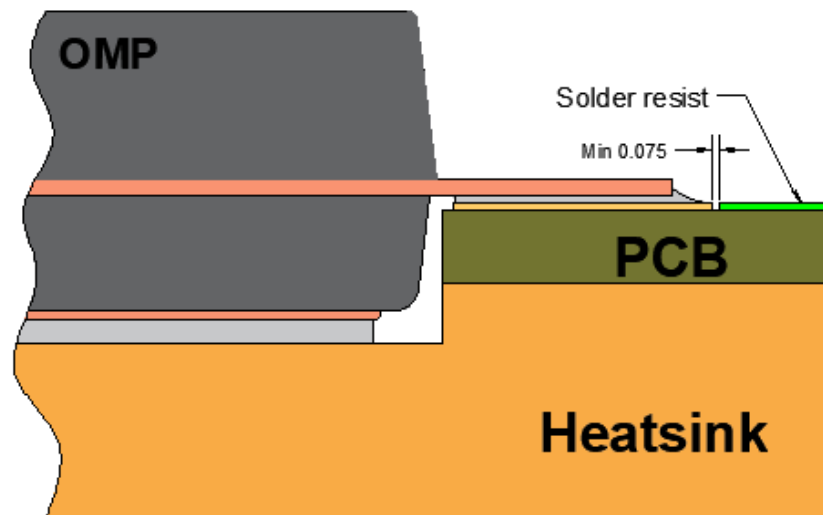

Figure 18. NSMD cross section view OMP straight leads package
- Non solder mask defined (NSMD) the solder mask openings are larger than the exposed metal pad (Figure 18).